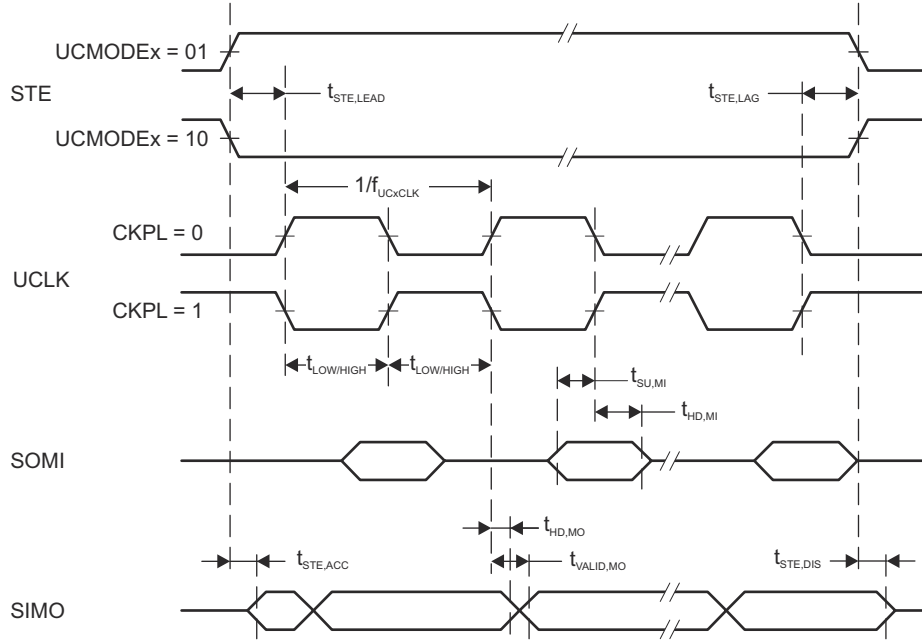
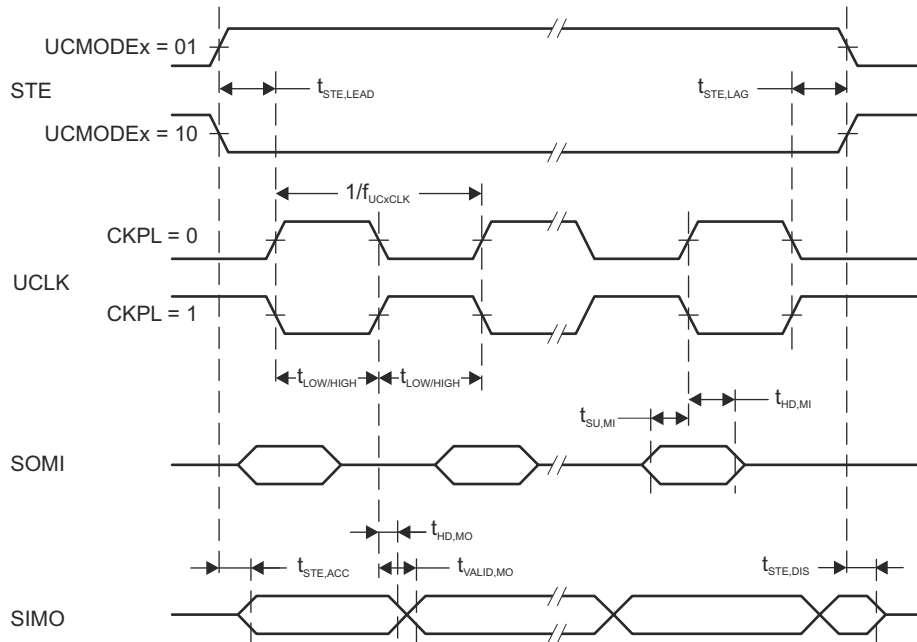

Figure 8-13. SPI Master Mode, CKPH = 0
Figure 8-14. SPI Master Mode, CKPH = 1
(2) Specifies the time to drive the next valid data to the SIMO output after the output changing UCLK clock edge. See the timing diagrams in Figure 8-13 and Figure 8-14.
(3) Specifies how long data on the SIMO output is valid after the output changing UCLK clock edge. Negative values indicate that the data on the SIMO output can become invalid before the output changing clock edge observed on UCLK. Refer to the timing diagrams in Figure 8-13 and Figure 8-14.